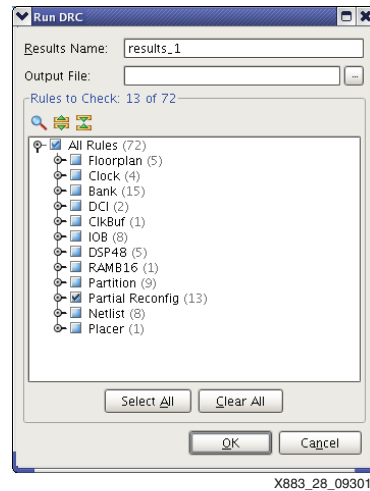

Figure 28: Run DRC Frame
1. Select **Tools** → **Run DRC...** or click **Run DRC** on the left side of the GUI under the netlist planner. Mark only the **Partial Reconfig** checkbox and click **OK** (see Figure 28).